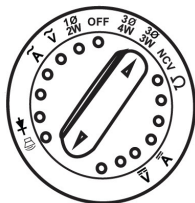

Fig. 22 3-phase 3-wire knob position
To measure power in a three-phase three-wire system, position the function selector switch to the $\frac{3\phi}{3W}$ setting as shown in figure 22.
- 2 Meter will show L1-2 and I-1 on display. Now connect meter to phase 1 as shown in fig 22.